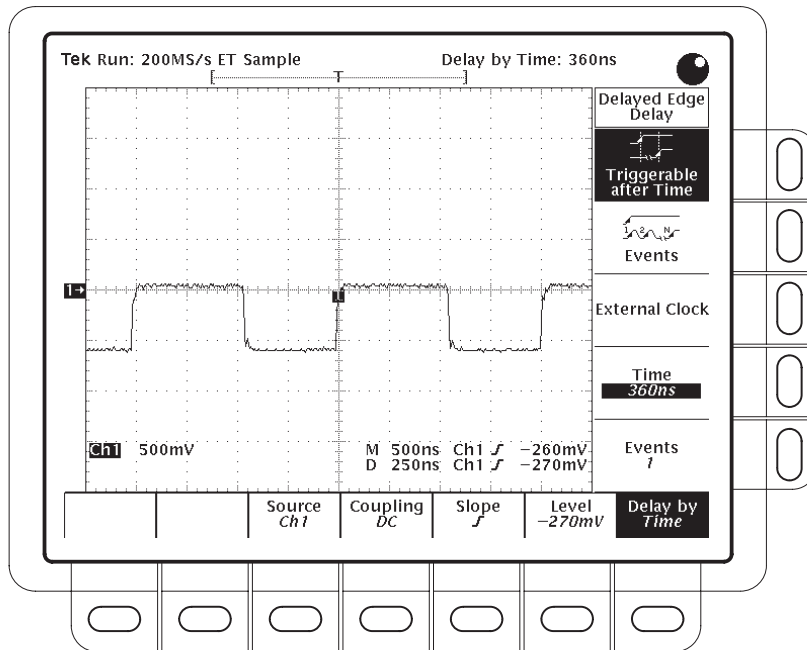

Figure 3-6: Delayed Trigger Menu (TDS 400A shown)
4. On a TDS 400A, press **SHIFT DELAYED TRIG** → **Delay by** (main) → **Triggerable After Time, Events, or Ext clks** (side) (Figure 3-6).